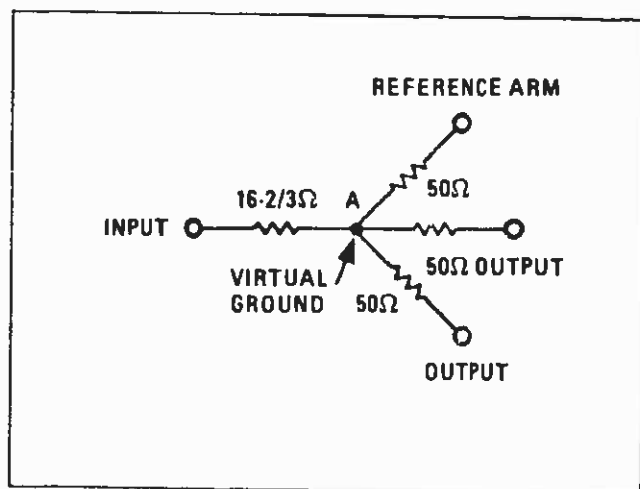

Figure 6. HP 11850A Power Splitter
14. The HP 11850A Power Splitter shown in Figure 6 provides two output ports with 50 ohms impedance when the third output port is used as a reference. It has a  $16 \frac{2}{3}$  ohm resistor in the input arm and a 50 ohm resistor in each of the output arms. The input impedance is 50 ohms as shown in Figure 7 and the output impedance of each arm is also 50 ohms due to the virtual ground at the fork of the power splitter when used for leveling or ratio measurements.